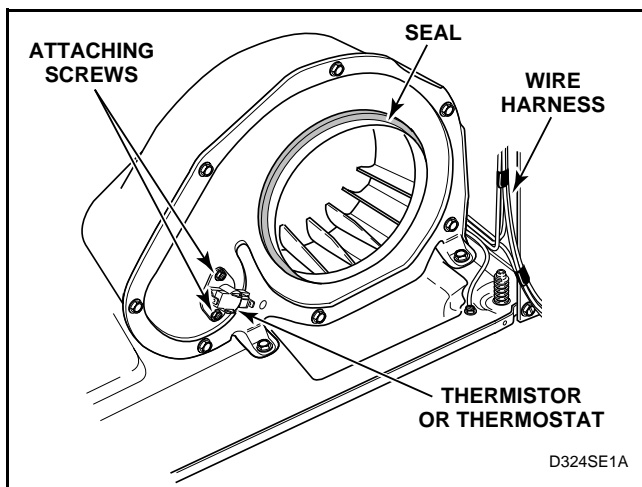

Figure 16
- Disconnect wires and remove thermostat attaching screws, thermostat and heater, if present. See *Figure 16*.
IMPORTANT: When reassembling, be sure seal on exhaust fan cover makes airtight seal on flange of duct. See *Figure 16*. If the seal is installed improperly, the airflow through the exhaust system will be restricted which can adversely affect dryer performance.
IMPORTANT: When reinstalling motor and exhaust assembly, be sure wire harness on right side is clipped to motor mounting bracket and is routed along dryer base (between motor mounting bracket and right side of cabinet). See *Figure 16*. Tab on rear of motor mounting bracket must be slid into slot in dryer base. Be sure the belt has been installed on the correct side of the idler lever. See *Figure 19*.